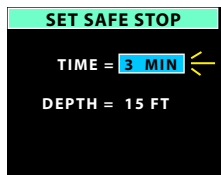

Fig. 31B - SET NO DECO SAFETY STOP
- S (< 2 sec), while SET is flashing - will display the Set Safe Stop Time/Depth screen with the Time setting flashing (Fig. 31B).